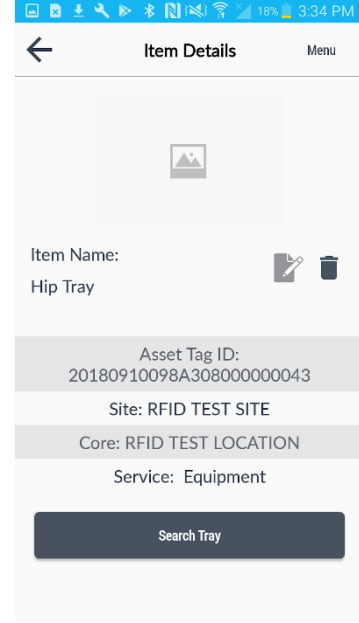

Figure 39
- Tap on the trash can icon to the right to delete the item or tray. A message will display, choose CANCEL OR DELETE. By choosing delete this will remove the item or tray from the Item List. **Fig. 39. Fig. 40**